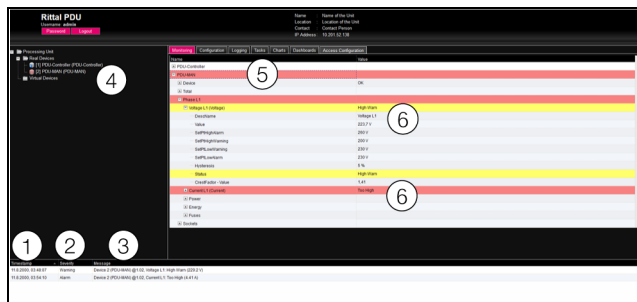

Fig. 52: Layout of message display
1. Timestamp: The date and time when the error occurred (fig. 52, item 1).
2. Severity: Severity of the error. A distinction is made between Warnings and Alarms (fig. 52, item 2).
3. Message: Error message in plain language (fig. 52, item 3).
- Left-hand section (navigation area): In the navigation area, the symbol preceding the component where the error occurred appears red in the event of an alarm message and yellow in the event of a warning message (fig. 52, item 4).
- Right-hand section (configuration area): On the **Monitoring** index tab, the entire component and the specific parameter to which the warning or alarm applies appears red or yellow (fig. 52, items 5 and 6).